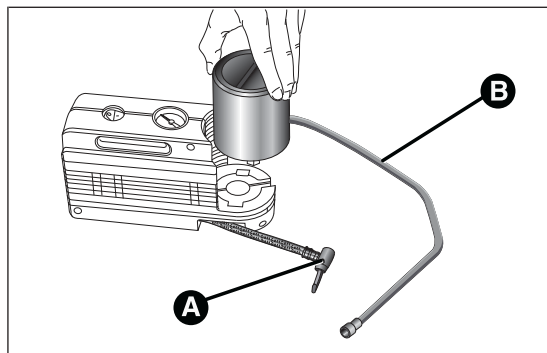

fig. 126
- ☐ disconnect connection A fig. 126;